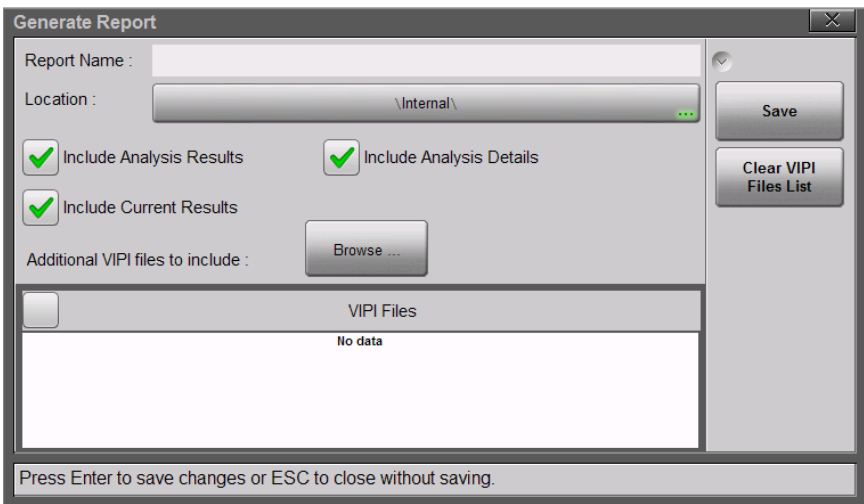

Figure 14-10. Generate Report Dialog
5. Press the **Generate Report** submenu key to open the dialog box in Figure 14-10.